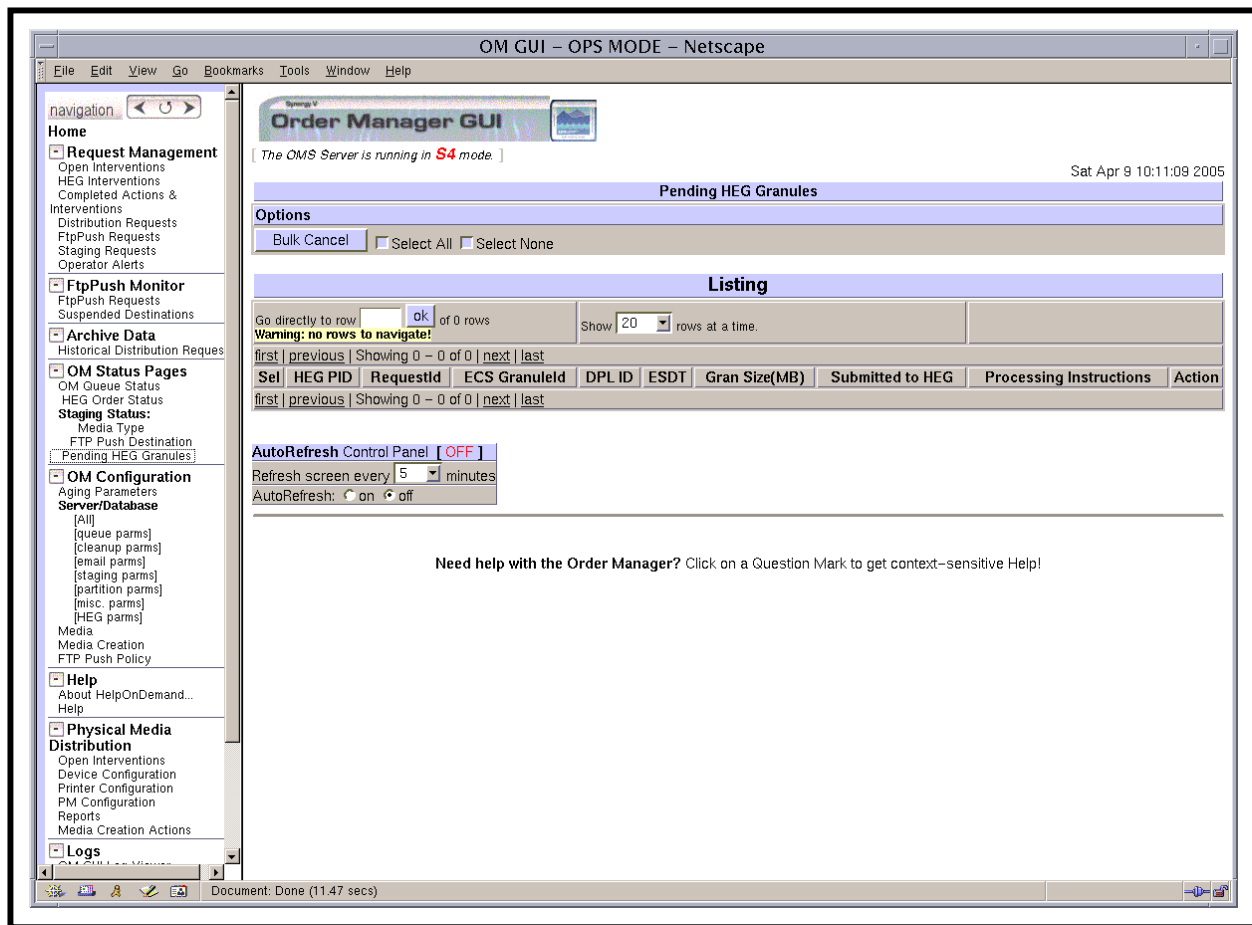

Figure 48. Pending HEG Granules Page
New for Synergy V, the **OM GUI** displays pending HEG granules. The **Pending HEG Granules** page (Figure 48) provides the Distribution Technician (whether full-capability or limited capability operator) with a means of viewing pending HEG granules.
- The **Pending HEG Granules** page (Figure 48) is displayed.